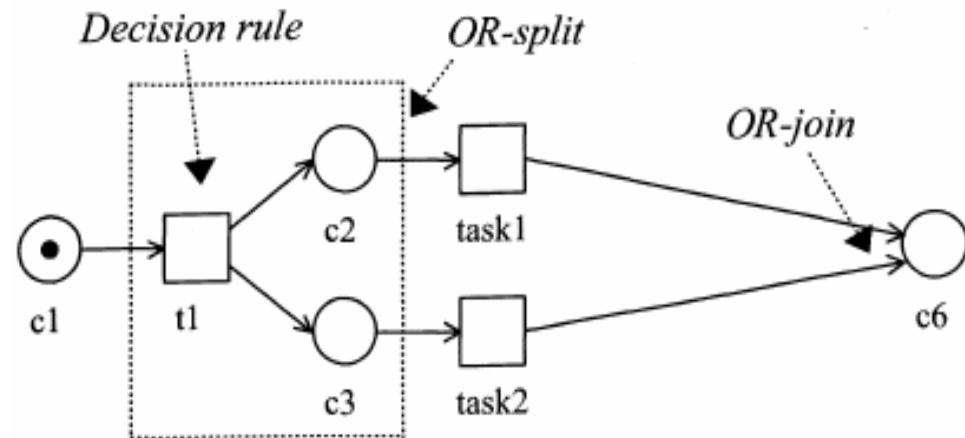

Figure 2.19
- model1: Fig2.19
- the OR-splits in figures 2.19 and 2.20 are equivalent ? p57